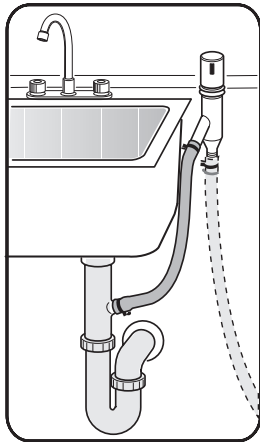

Figure 27
- 3 To the undersink dishwasher drain connection through an air gap, as shown in **Figure 27**.